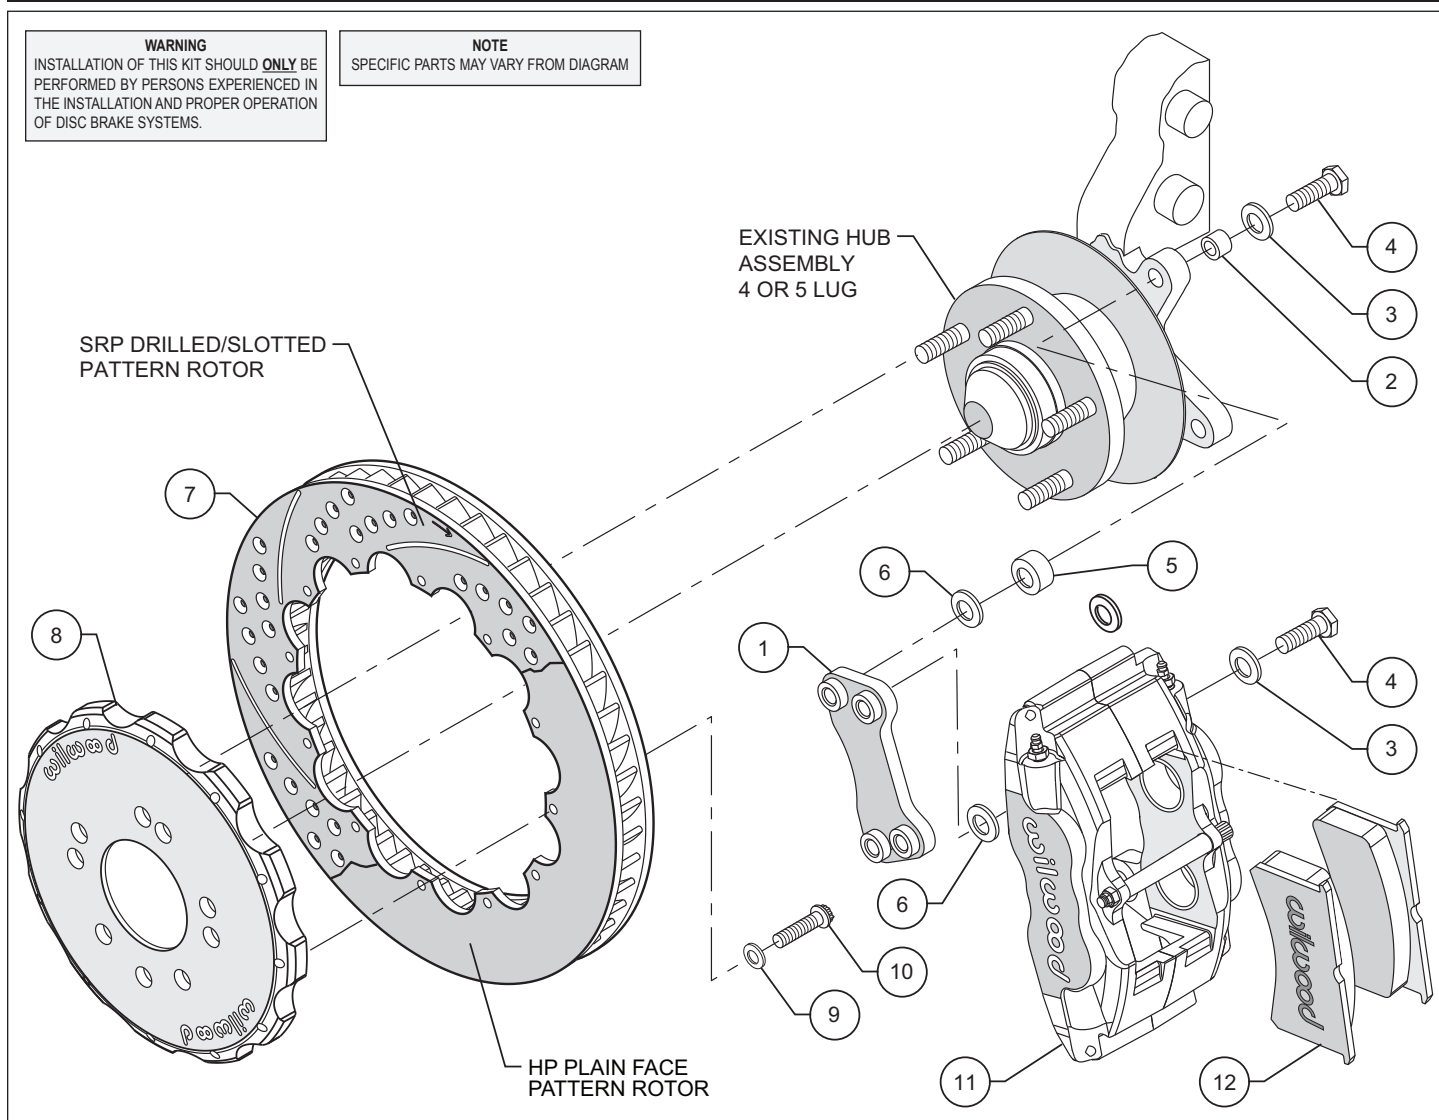

Figure 1. Typical Installation Configuration
- Insert one sleeve (2) each into the holes on the top and bottom of the spindle "ears" where the OEM caliper bracket was removed. Apply red *Loctite*® 271 to the caliper mounting bracket bolt threads (4) before installation of the caliper mounting bracket (1). Install the bracket with the flanged heads of the clinch nuts facing outboard, as shown in Figure 1. Slide bolt (4) through washer (3) and into the previously installed sleeve (2) from the backside of the hub. On the front side of the hub place spacer (5) and one shim (6) between hub and bracket. Finger tighten. Repeat for the lower mounting holes. Torque bolts to 75 ft-lb.
•**NOTE:** Please reference the caution statement at the beginning of the assembly instructions. With the bleed screws pointing up, mount the caliper (11) onto the caliper mounting bracket (1) using bolts (4) and washers (3), as shown in Figure 1. View the rotor (7) through the top of the caliper (11). The rotor should be aligned in the center of the caliper. If not, loosen the bolts and adjust the caliper by using 0.016 inch thick shims (6). Finger tighten and recheck alignment. Always use the same amount of shims on both the top and bottom caliper mounting bolts. Loosen the bolts and apply red *Loctite*® 271 to bolt threads, and torque to 75 ft-lb.